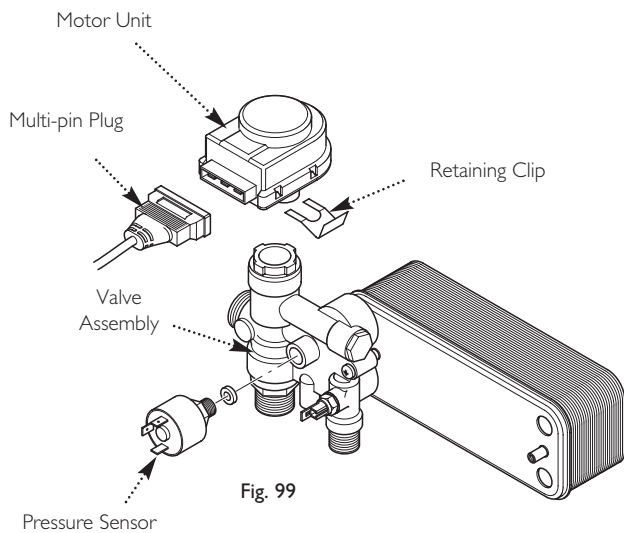

Fig. 99
14.19 Diverter Valve - Motor Unit & Assembly (Figs. 99 & 100)